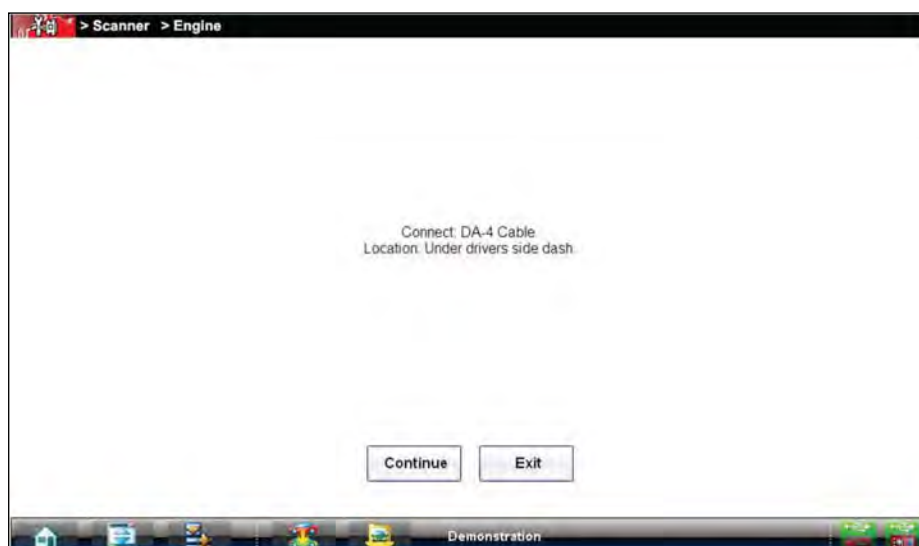

Figure 5-5 Vehicle connection data cable message
While using the Scanner and OBD-II/EOBD functions, on-screen cable and adapter connection instructions are provided. The instructions may also include the location of the vehicle DLC (Figure 5-5). If required, additional connection information can be found in the appropriate vehicle communication software manual for the vehicle. Vehicle communication software manuals are available online, see the website information at the front of this manual.
1. While using the Scanner or OBD-II/EODB function, follow the on-screen instructions for connecting the cable and/or any adapters required to the vehicle (Figure 5-5).